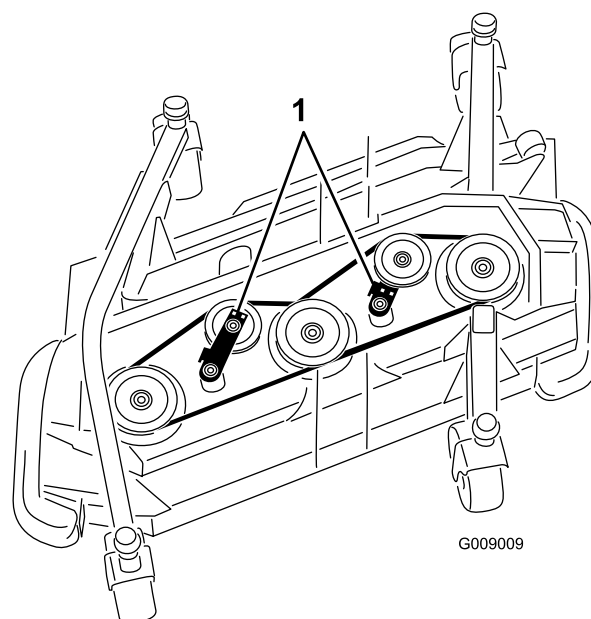

Figure 84
3. Using a ratchet wrench or similar tool, move the idler pulleys (Figure 84) away from the drive belt to release the belt tension and allow the belt to be slipped off the pulleys.